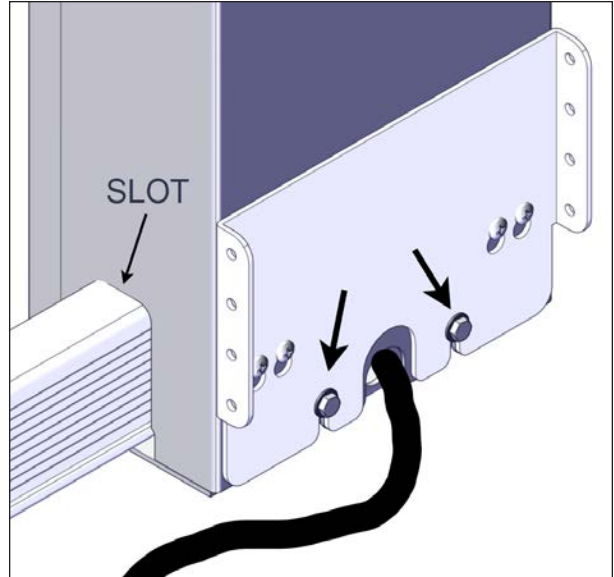

FIGURE 86: SLEEVE INSTALLATION
When sliding the sleeves over the jacks, ensure the slot at the bottom of the outer sleeve is going to slide over the U-frame that covers the drive shaft. **There are right and left sleeve models**, see Figure 86.
17. Tighten 1/4" hexagonal screws at the bottom of all the sleeve base. (7/16" (11 mm) socket wrench). Ensure that the washer is outside of the outer sleeve. This will ensure the sleeve is held correctly, see Figure 86.